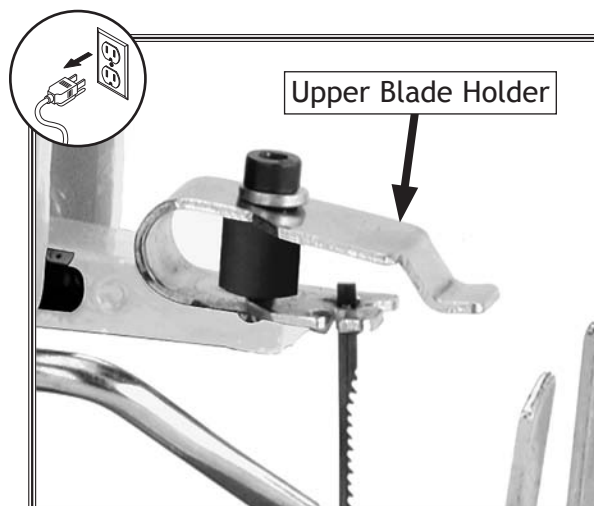

Figure 6. Pin-end blade properly mounted onto the upper blade holder.
6. Press the upper blade holder down, then slide the upper pin-ends onto the V-notch of the upper blade holder, as shown in **Figure 6**.